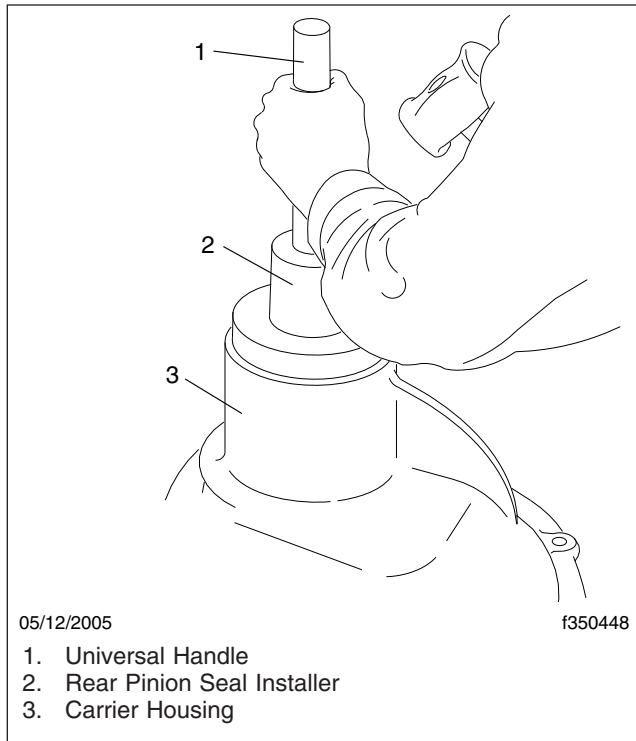

Fig. 3, Installing the Rear Pinion Seal, Model 4 Axle
- 5.2 Press the seal into the bore until the seal surface is flush with the bottom surface of the counterbore. For Model 4 axles, use the rear pinion seal installer assembly; see Fig. 3.